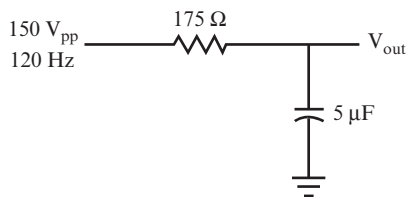

FIGURE 6.31
- 25** Use the circuit shown in Figure 6.31 to answer the following questions.